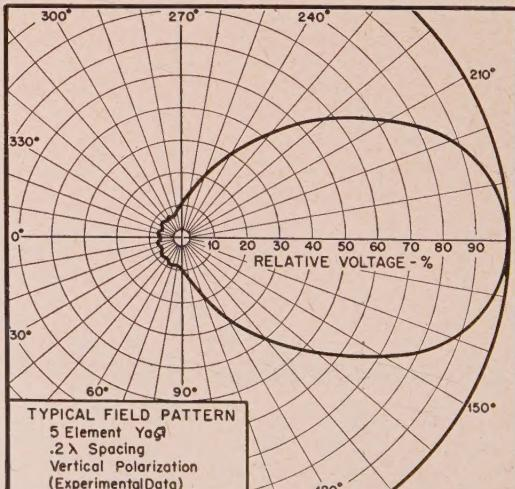
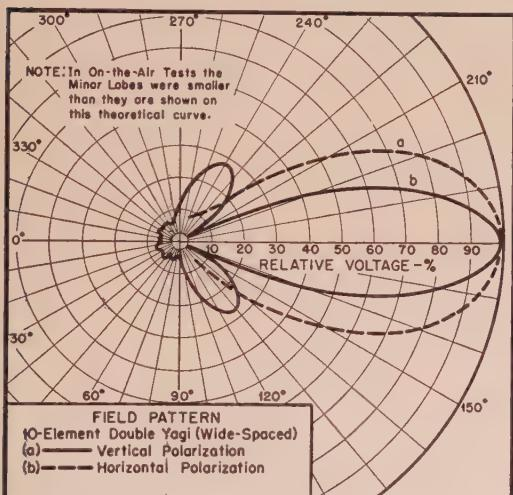

Figure 2
Figure 3
Now, for the time being, forget those two dipoles and consider the famous Yagi or parasitic array. Many articles have been published showing the possible field patterns which may be developed with a system of parasitic directors and reflectors.3 Conservatively speaking, it takes the mathematics of Einstein and the patience of Job to calculate the field pattern and gain of one of these simple little gadgets. Rather than attempt to figure the performance out on paper, and being a lazy sort of fellow, we built up a little five-element Yagi using 0.2-wavelength spacing and "Handbook" dimensions. In spite of the three directors and one reflector, the feed impedance was not zero, or infinite, and, as a matter of fact, it was a cinch to match to a 300-ohm line. The field pattern looked like that shown in *Fig. 2*.
**Fig. 1c** and the smooth uni-directional single lobe pattern of the Yagi (Fig. 2). Thus, the idea of using two five-element Yagi antennas at a spacing of a full wavelength was born. The resultant pattern is shown in *Fig. 3*. This pattern is for vertical polarization. When the array is operated to obtain horizontal polarization, the broadside stacking of the two Yagi antennas seems to have a negligible effect on the sharpness of the forward lobe, and the field pattern is that of a single five-element Yagi. This pattern is shown in *Fig. 3* as the dashed line. All of these patterns have been verified by measurements, using a 1/3-scale model (420 mc) in the laboratory and using the full-scale array after it was erected in many on-the-air tests with stations at various distances in several directions.